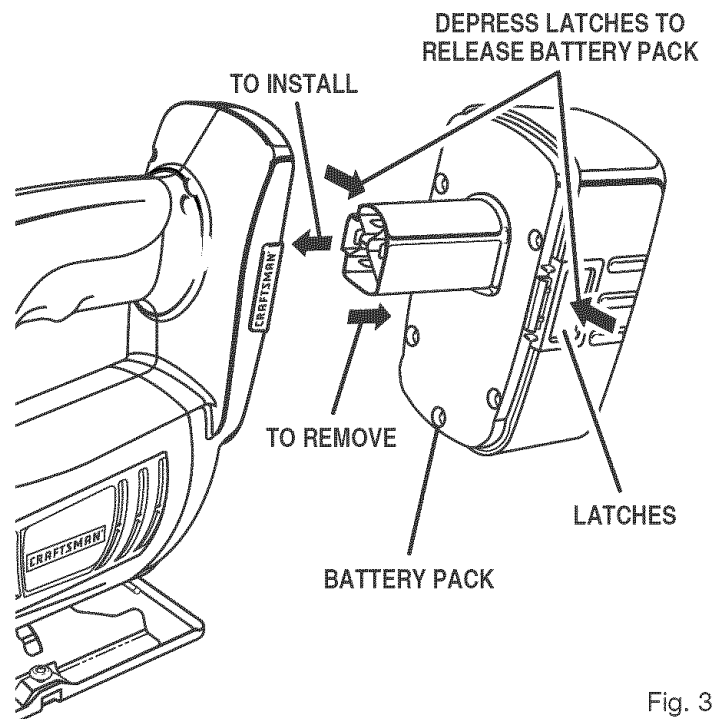

Fig. 3
See Figure 3.
- Remove battery pack. See Figure 3.